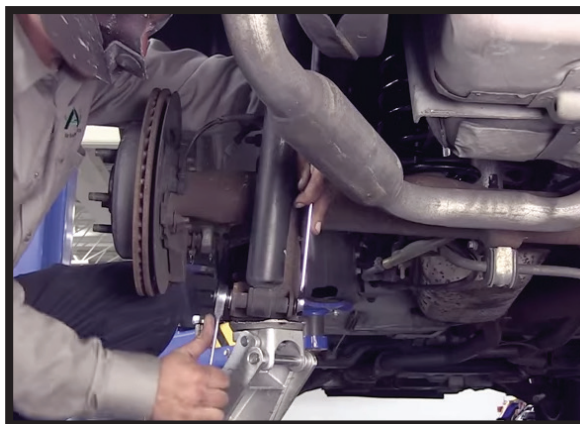

FIGURE 20-3
3. Install the new shock absorber's retaining nuts and bolts to the rear axle, tightening to manufacture's specification. (FIGURE 20-3)